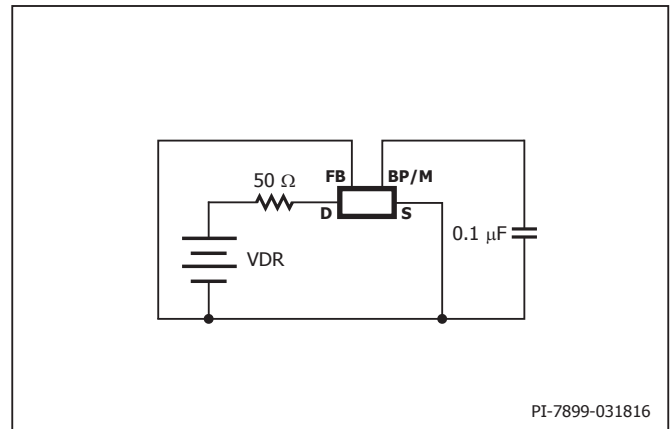

Figure 12. LinkSwitch-TN2 Minimum On-Time Test Circuit.
- I. Measured using circuit in Figure 12 with 50 Ω drain pull-up. The width of the drain pulse is measured as the time from $V_{FALL} = 42$ V to $V_{RISE} = 40$ V (VDR = 50 V), for LNK3206/05/04 and as the time from $V_{FALL} = 32$ V to $V_{RISE} = 30$ V on rising edge (VDR = 35 V), for LNK3202.